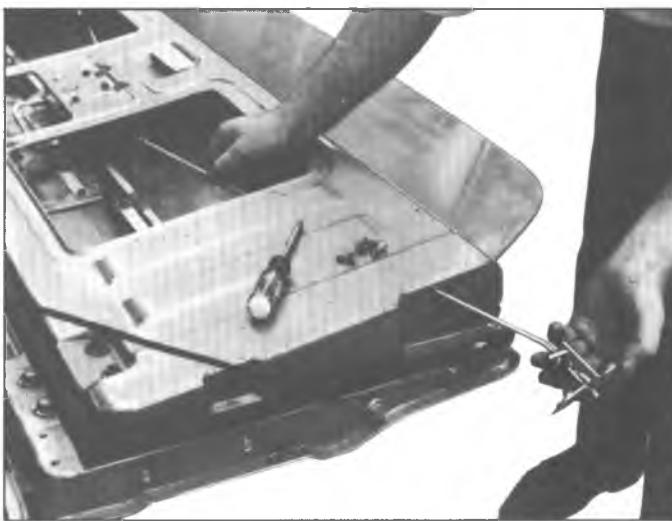

Fig. 62—Removing Side Latch
3. Remove four screws from each side latch, and withdraw latch and control rod from endgate, as shown in figure 62.